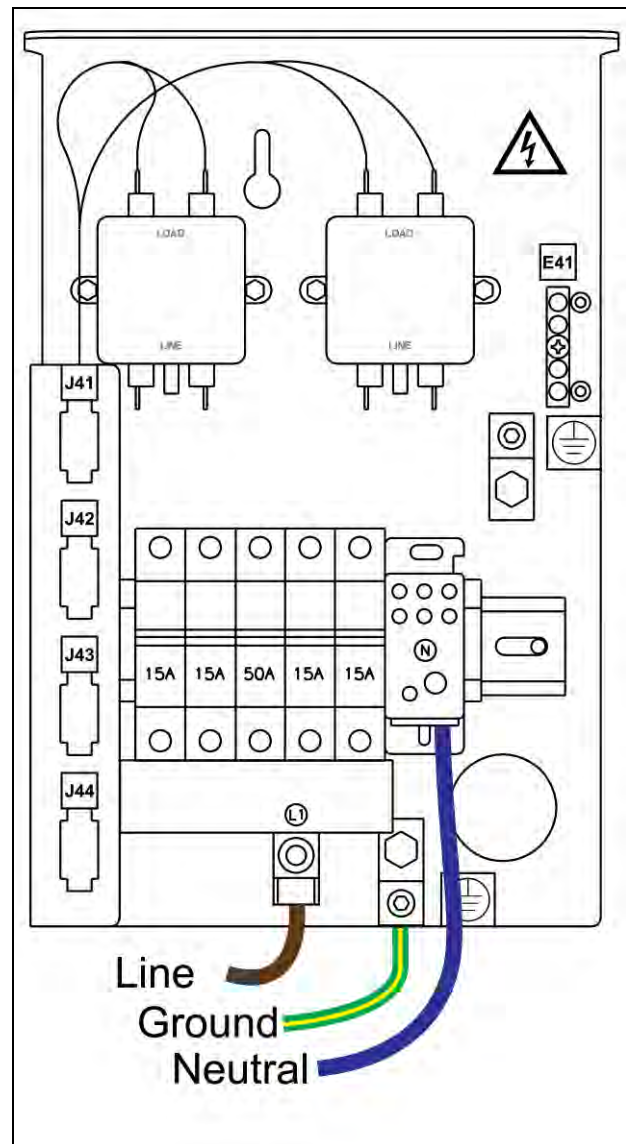

Figure 41: 240 V Single-Phase Power Termination
4. Connect the neutral wire to the neutral lug and the live wire to the Line 1 lug, as shown in **Figure 41**.